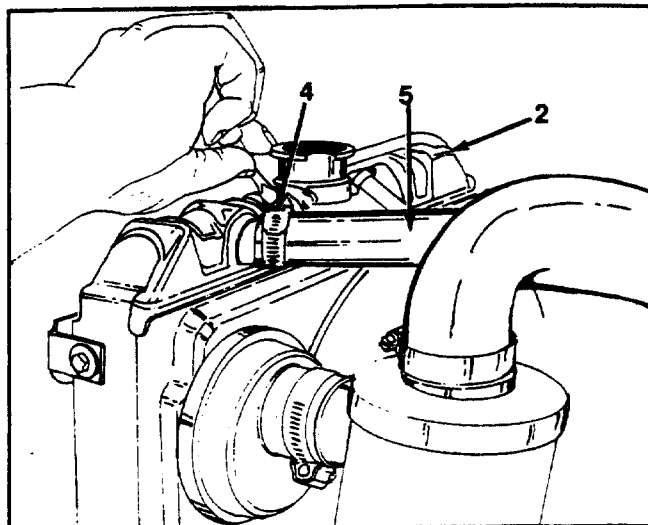

FIGURE 3.
4. Loosen the clamps on the radiator upper hose and remove the upper hose. See figure 3.